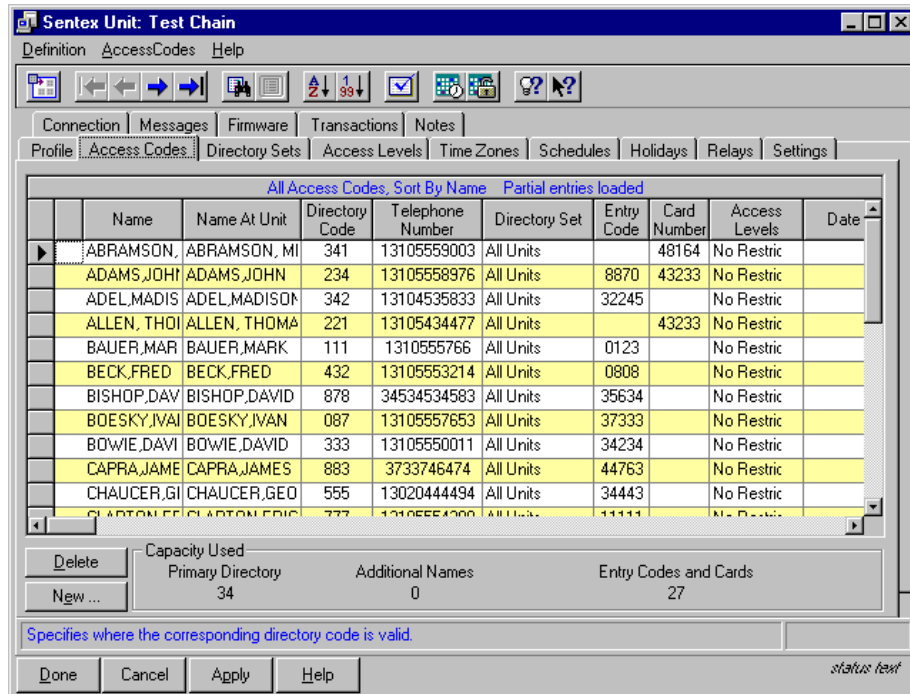

Figure 35: Unit Definition Window Access Codes Page
The Access Codes page (see Figure 35) allows you to enter access codes and create your directory from the same window, since data entered here becomes part of the database.
- 1 Click on the Access Codes menu at the top of the Unit Definition Window (Figure 35).